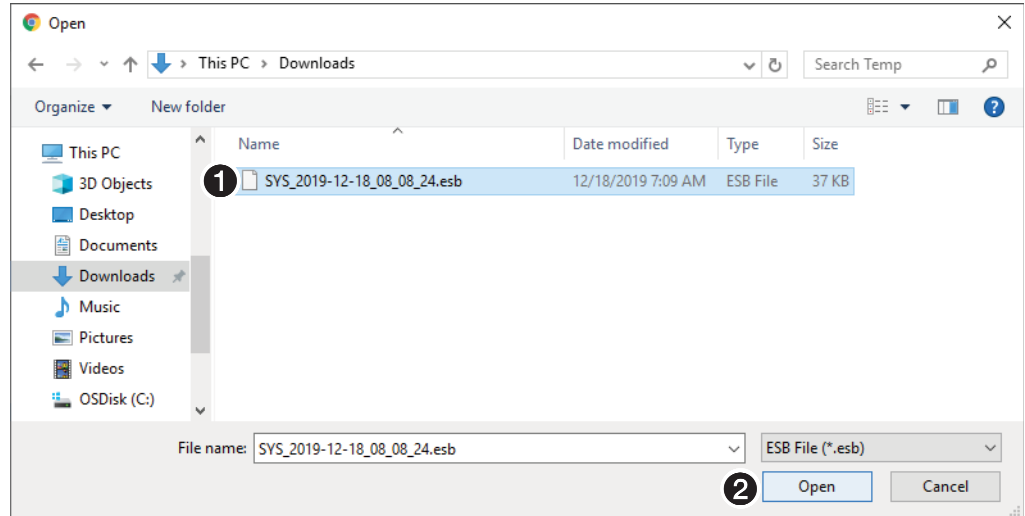

Figure 85. Open Dialog Box
6. Click **Select File** (❷). An Open dialog box opens (see figure 85 on page 81).
7. Navigate to the folder where the backup file is saved (typically the Downloads folder) (see figure 85, ❶). Select the file.